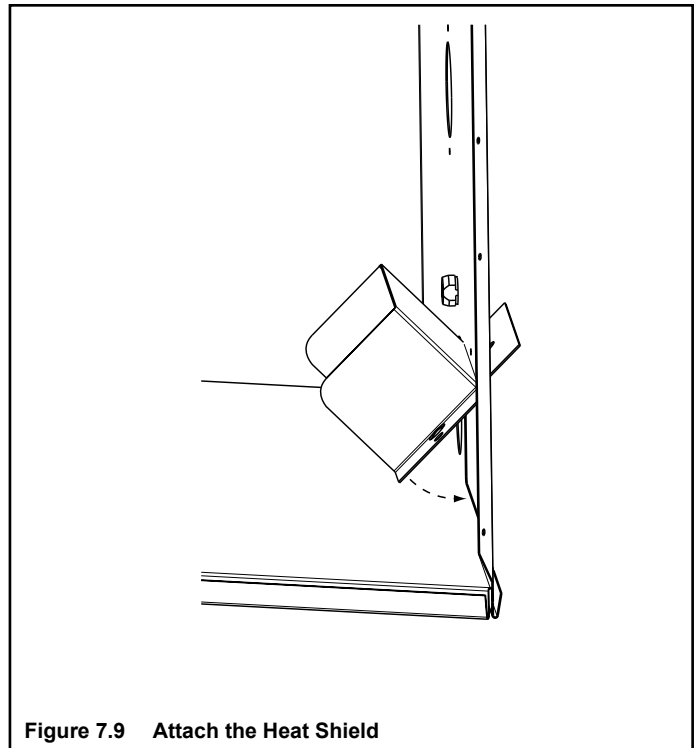

Figure 7.9 Attach the Heat Shield
- Prior to attaching the junction box to the appliance, the heat shield supplied with your appliance must be installed. Insert the top flange of the heat shield through the electrical knockout hole from the inside (Figure 7.9).